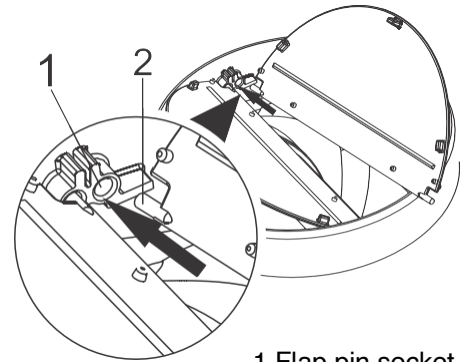

Fig. 12
1. To fit each flap, locate the first hinge tab in the locator hole on the motor assembly (area 1 in Fig. 12). Then bend the plastic flap slightly to locate the second hinge tab in its own locator.